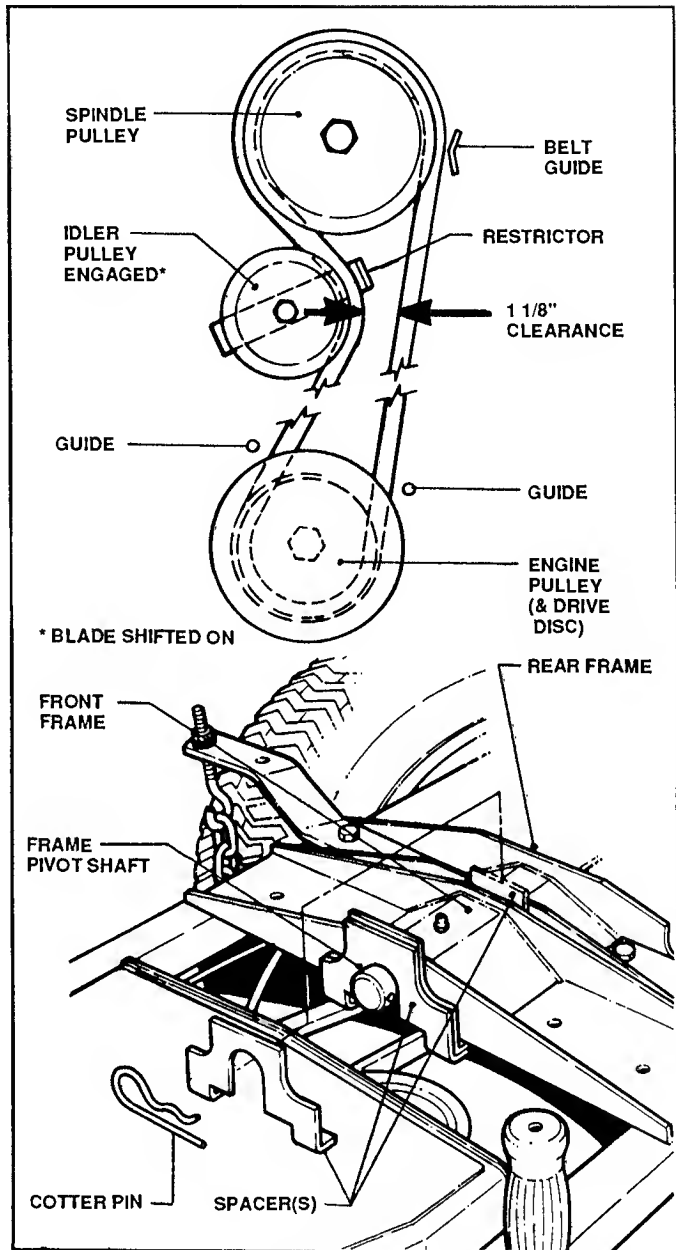

FIGURE 19
1. Move the BLADE CONTROL to the left and forward to the "ON" position and check the distance between the inside spans of the belt adjacent to the edge of the idler pulley. This should measure about 1 1/8". If less than this, correct spacing by pulling the cotter pin and moving one of the spacers from the front of the frame pivot shaft to the space between the front and rear frames. Reinstall pin and recheck. When clearance is about 1 1/8", proceed with Step 2. See Figure 19.